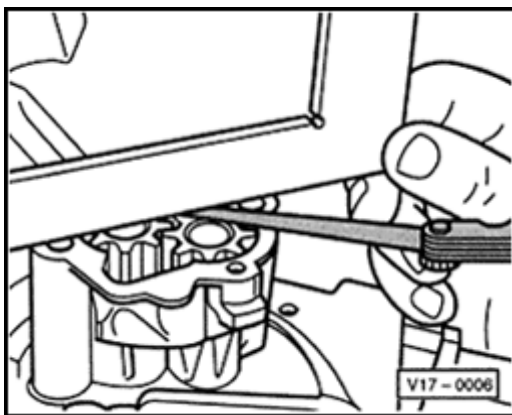

Fig. 2 Checking oil pump axial clearance
- ◆ Checking axial clearance ⇒ Fig. 2